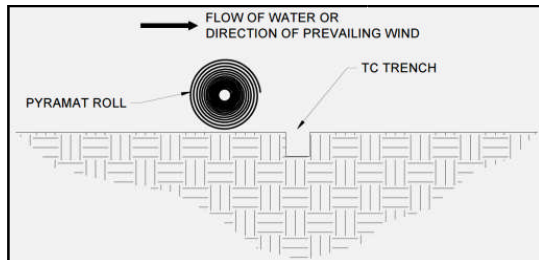

Figure 18: Terminal Channel (TC) Trench Alignment
8. Place the Pyramat roll edge in the TC trench, ensuring full coverage along the bottom of the entire TC trench with the Pyramat (Figure 18).
9. Secure Pyramat with pins and PDEAs in the TC trench (Figure 18). Suggested placement of pins and PDEAs for the TC trench is along the bottom of the trench with pins on 12 in (300 mm) centers in between PDEAs on 4 ft (1.2 m) centers. PDEAs should also be installed on panel edge overlaps in the TC trench.